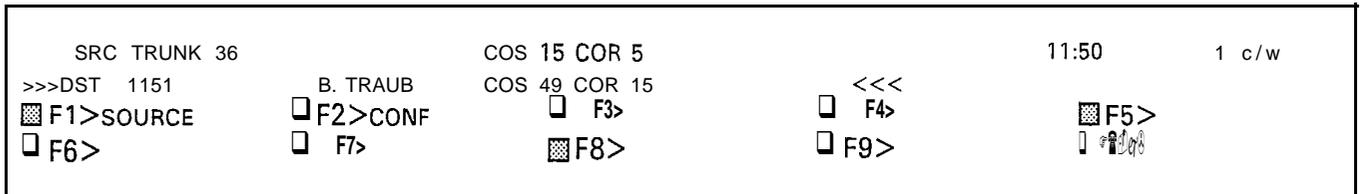

Figure 3-17 Connecting a Source and Destination or Forming a 3-Way Conference
3.22 If the Attendant has a source party and reaches a destination party, the Attendant may return to the source (SOURCE), connect the source party with the destination party (fixed RELEASE key), or form a 3-way conference (CONF). Refer to Figures 3-17 and 3-17a. The fixed CANCEL key may be used to return to the source party.